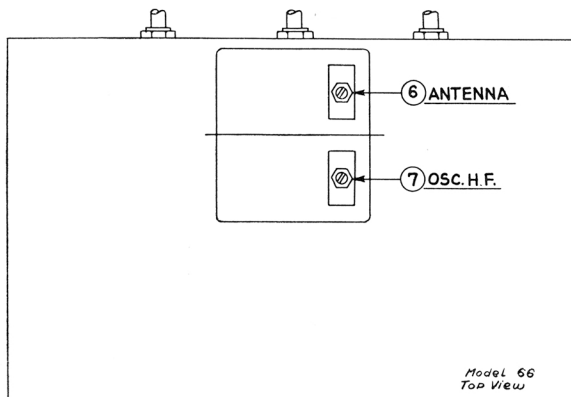

Fig. 20
3. These adjustments ⑥ and ⑦ are located on top of the tuning condenser assembly at right (facing front of set) and adjusted from above. The "ANT" is nearest front of set. Set signal generator at 1700 and dial of set at 170 and adjust these two condensers to get maximum output meter reading. See Fig. 20.